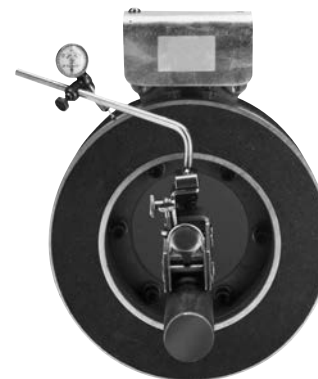

Figure 3
4. Use a dial indicator to check the unit for concentricity and squareness to the shaft. The unit should be concentric within .010 T.I.R. and square within .006 T.I.R. (See Figure 3.)